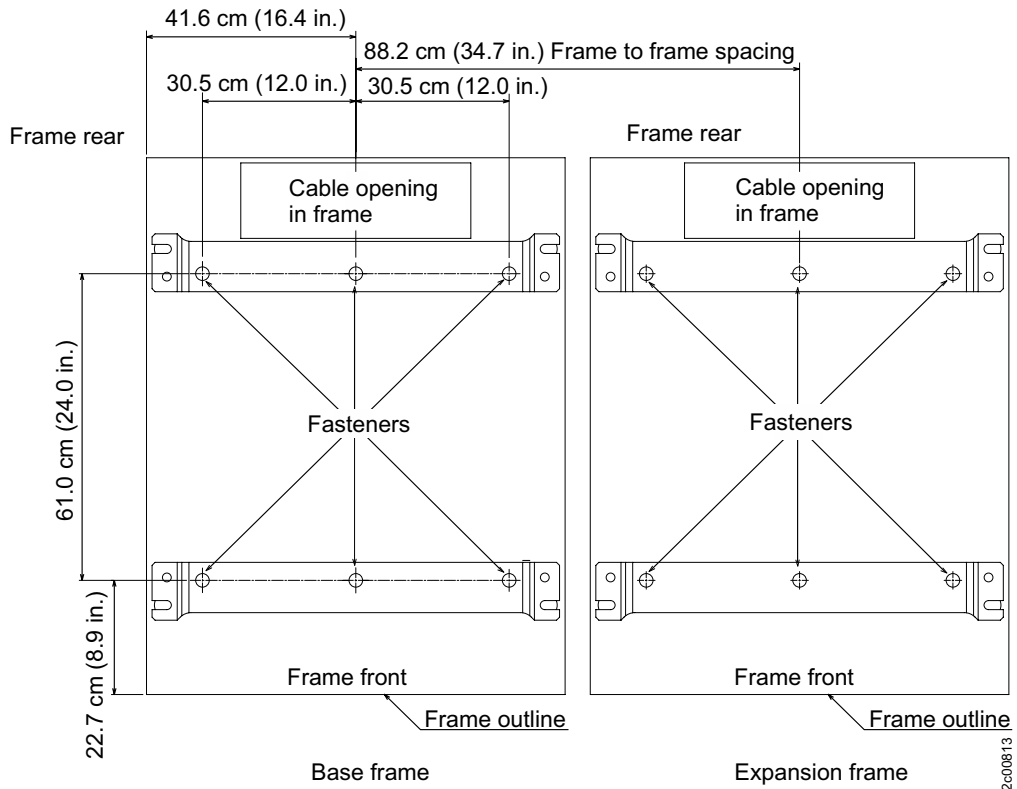

Figure 28. Locations for fastener installation (nonraised floor).
- Use Figure 28 to determine the placement of the fasteners.